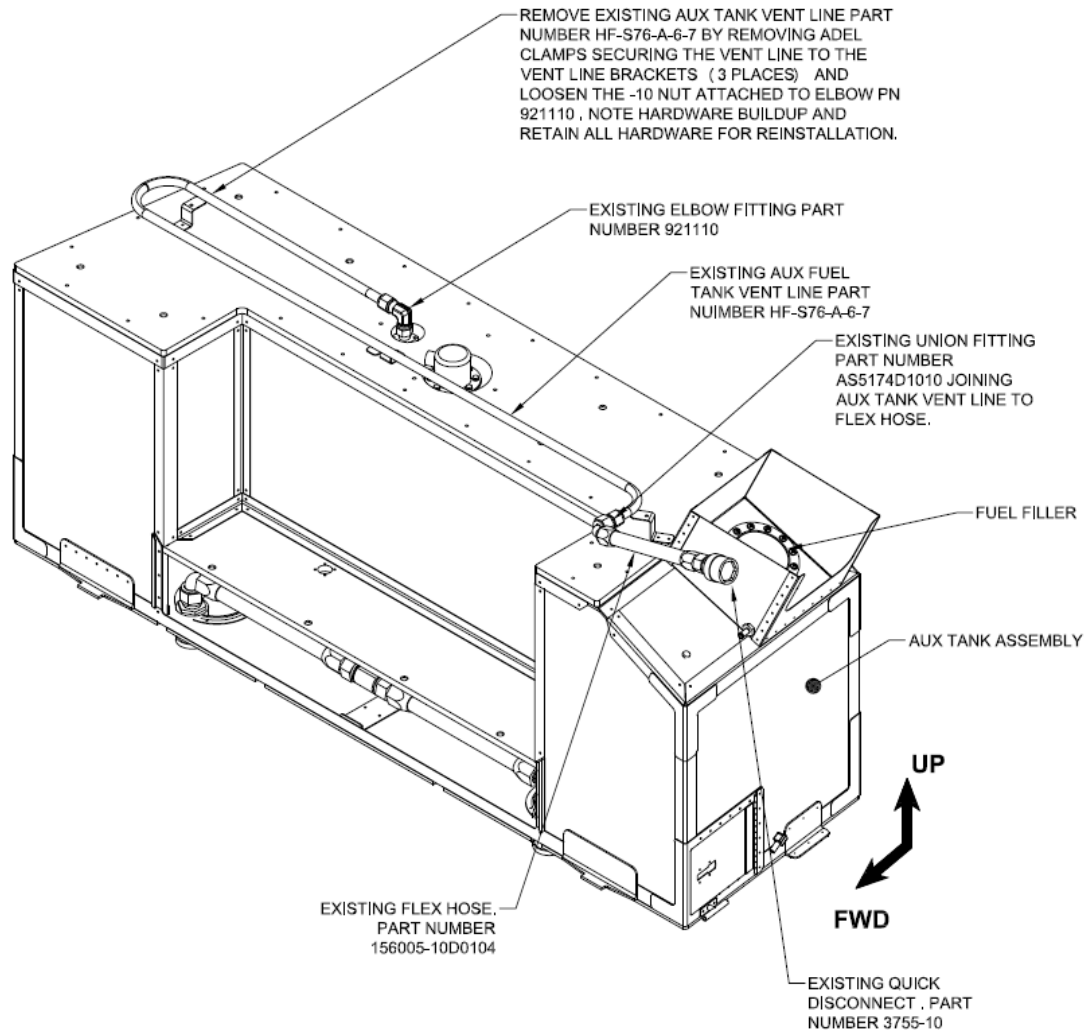

Figure 2
2. Remove the quick disconnect hose part number 156005-10D0104 and AS5174D1010 union from the aux tank vent line (see figure 2). Discard union PN AS5174D1010.
3. Cut vent line, deburr cut end of vent tube, and flare cut end of tube as detailed in figure 2.